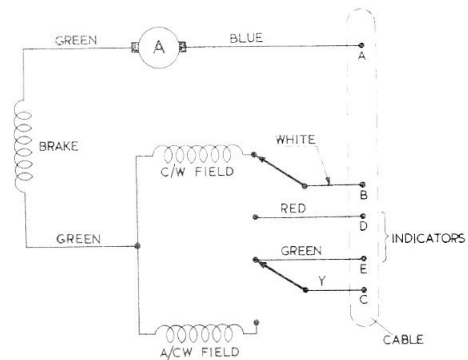

Fig. 2. Diagram of internal connections
3. Electrical connection is made by a 35 in. length of Quinpremet 6 cable which is taken through a gland entry screwed to the housing; the cable ends in a 5-pole socket (Ref. No. 5X/6019, superseded by 5X/6376/B). The internal connections are as shown in the circuit diagram in fig. 2.